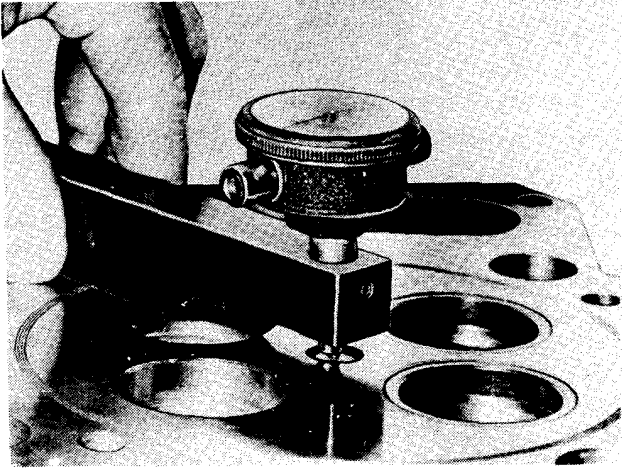

Fig. 2-9, (N10206). Measuring injector tip protrusion
2. Install injector assembly; torque to 10 to 12 ft-lbs [14 to 16 N•m]. Measure tip protrusion with ST-547 Dial Indicator. Fig. 2-9. Tip protrusion must be 0.060 to 0.070 inch [1.52 to 1.78 mm]. See Service Tool Instruction.